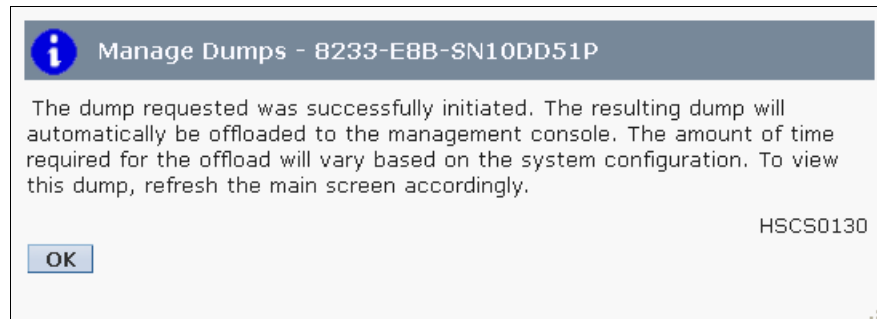

Figure 6-20 Service Management: System dump complete
4. If there are no errors that are associated with the system dump, you get a status message as shown in Figure 6-20. Click **OK**.